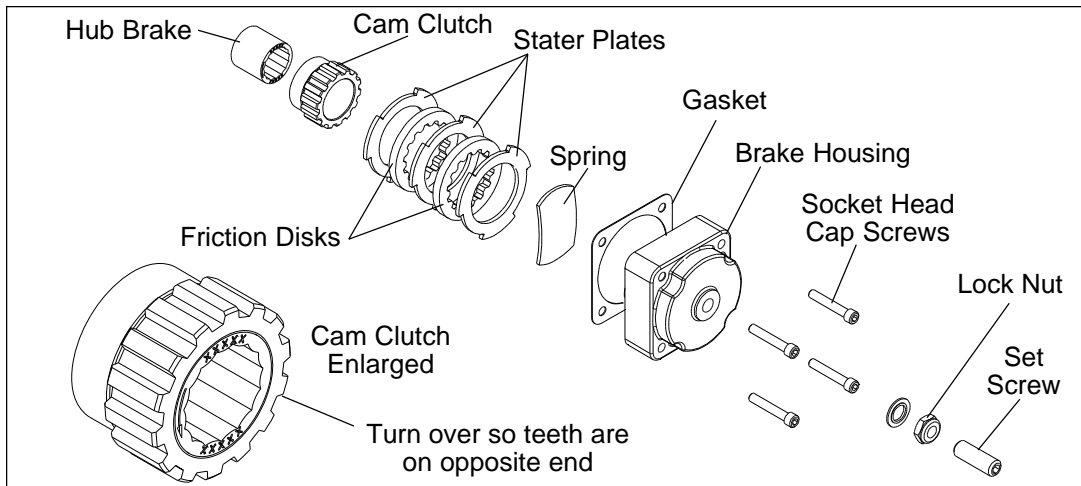

Figure 2 — Tulsa Winch Parts
9. Remove the set screw and lock nut from the winch brake cover (refer to Figure 2).